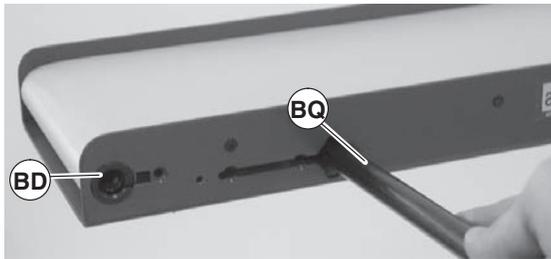

Figure 52
6. Using pulley installation tool (BQ) as a lever, align pulley bore with conveyor frame opening. Insert retaining sleeve (Figure 52, item BD) into pulley until flush with conveyor frame.